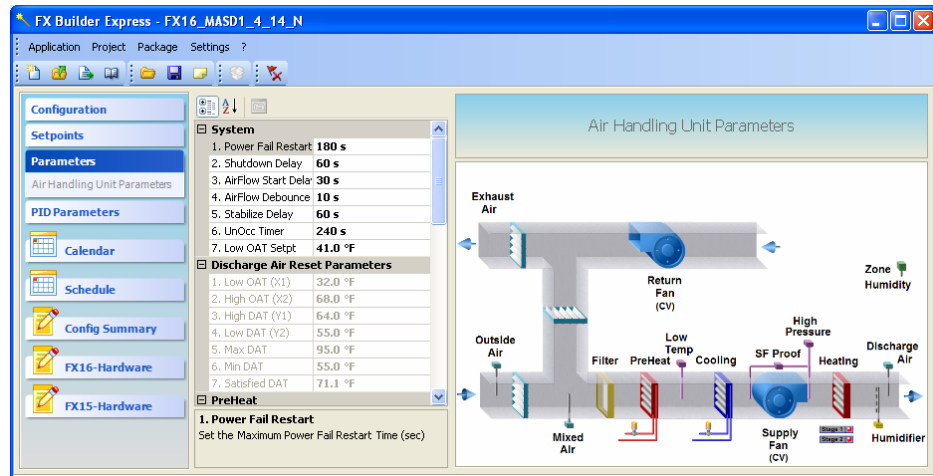

Figure 21: Parameters Tab
1. In FX Builder Express, select a standard application and select Parameters. System parameter information appears (Figure 21).